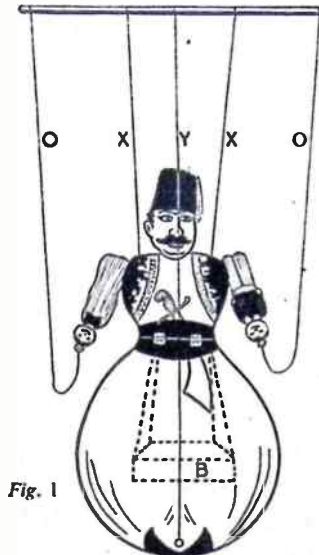

Fig. 1
(B) in Fig. 1 represents the position of the car of the balloon. In the first part of the presentation this is hidden behind the puppet. It can be made from any material which is available, the only consideration being that it must be strong enough and deep enough to support the balloon's passengers. The car is suspended by four strings which are attached to the top section of the puppet at the waist.
connecting positions are clearly shown in Fig. 1. Remembering that the ideal height for the control is breast-high to the operator, fasten the two (X) strings first. These should support the weight of the whole model in an upright position while it is standing on the ground or the stage.
The figure of the Turk is shown at Fig. 1. With the exception of the two arms, this is made entirely in one piece, from 1/4 in. plywood. The size of the figure will depend on the theatre that you are using, but if you have made marionettes as described in my previous articles, it is recommended that your Turk is of the same height, i.e. 14 ins.